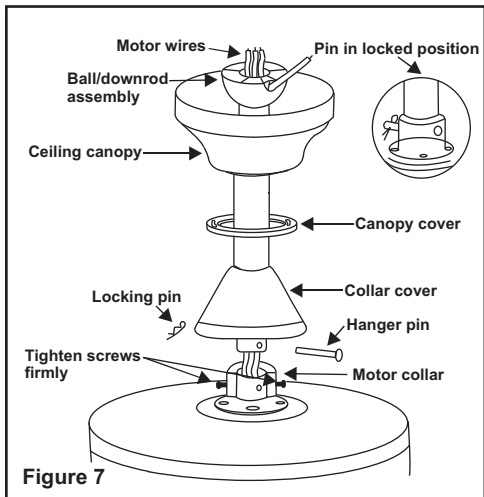

Figure 7
Step 6. Route wires exiting from the top of the fan motor through the collar cover, canopy cover, canopy and then through the ball / downrod. (Fig. 7)
with the holes in the collar on top of the motor housing (Fig.7). Carefully insert the hanger pin through the holes in the collar and downrod. Be careful not to jam the pin against the wiring inside the downrod. Insert the locking pin through the hole near the end of the hanger pin until it snaps into its locked position, as noted in the circle inset of Fig. 7.
Step 8. Tighten two set screws on top of the fan motor firmly (Figure 7)